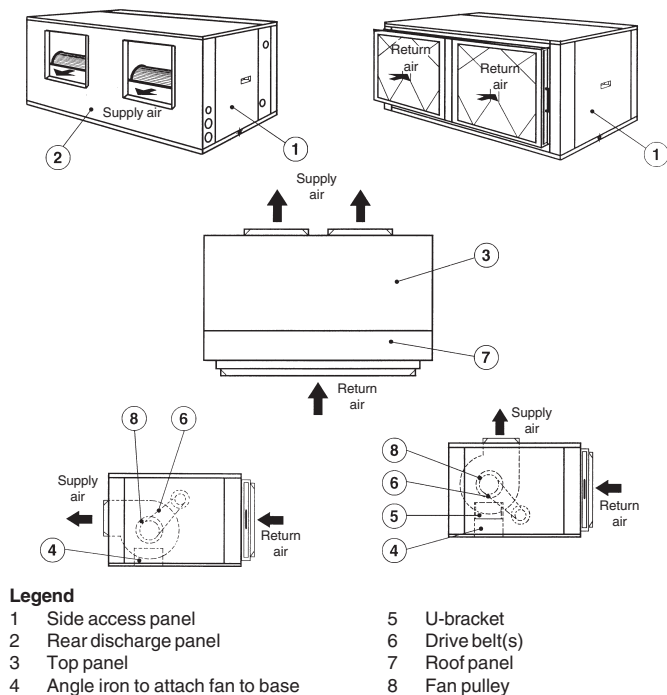

Fig. 31
- Change from horizontal (standard) to vertical discharge with changing the position of the motor. See Figs. 31 and 32, depending on model.
- a) Detach the side access panels ①.
- b) Remove the drive belt(s) ⑥.
- c) Unscrew the fans from the brackets ④ securing them to the base.
- d) Detach the rear panel with the fan outlets ② and the top panel ③.
- f) For units 40ABZ 016, 020, 024 detach the drive base together with the motor ⑨ and reposition it on the opposite side.
- g) Remove the fan pulley ⑧ and reposition it on the other side.
- h) Interchange the position of panels ② and ③, fastening them correctly to the unit.
- i) Bolt the U-bracket ⑤ to each fan.
- j) Bolt the U-bracket ⑤ to the angle iron ④ holding the fans to the base.